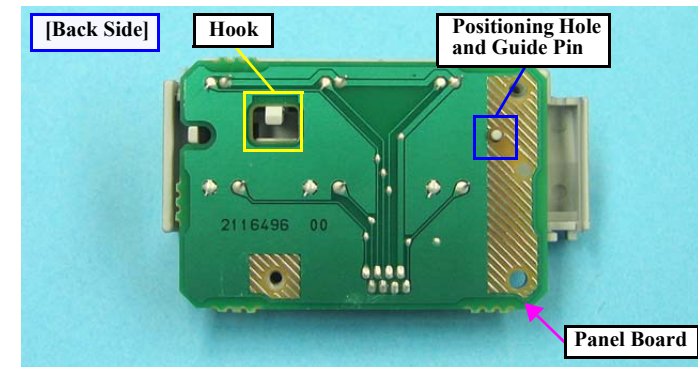

Figure 4-30. Removing the Panel Board / Buttons (3)
- When installing the Panel Board, match the guide pin with the positioning hole shown in Fig.4-30.